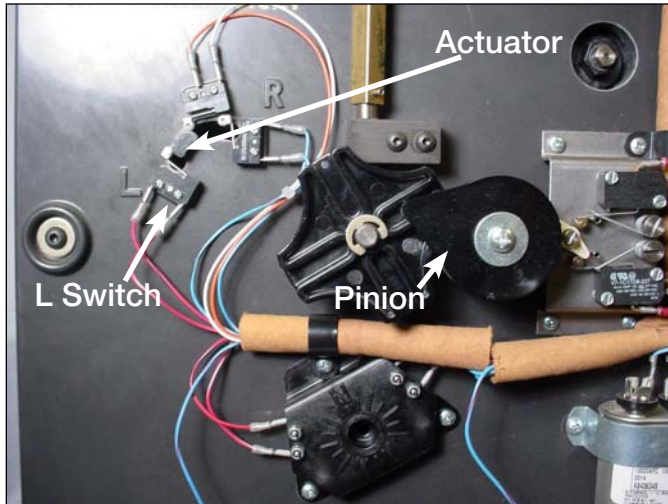

Figure 30.
- Position the position actuator arm between the center position and L by rotating the pinion counter clockwise. See Figure 30. This will allow for mounting the micro switches without interference with the micro switch arms.